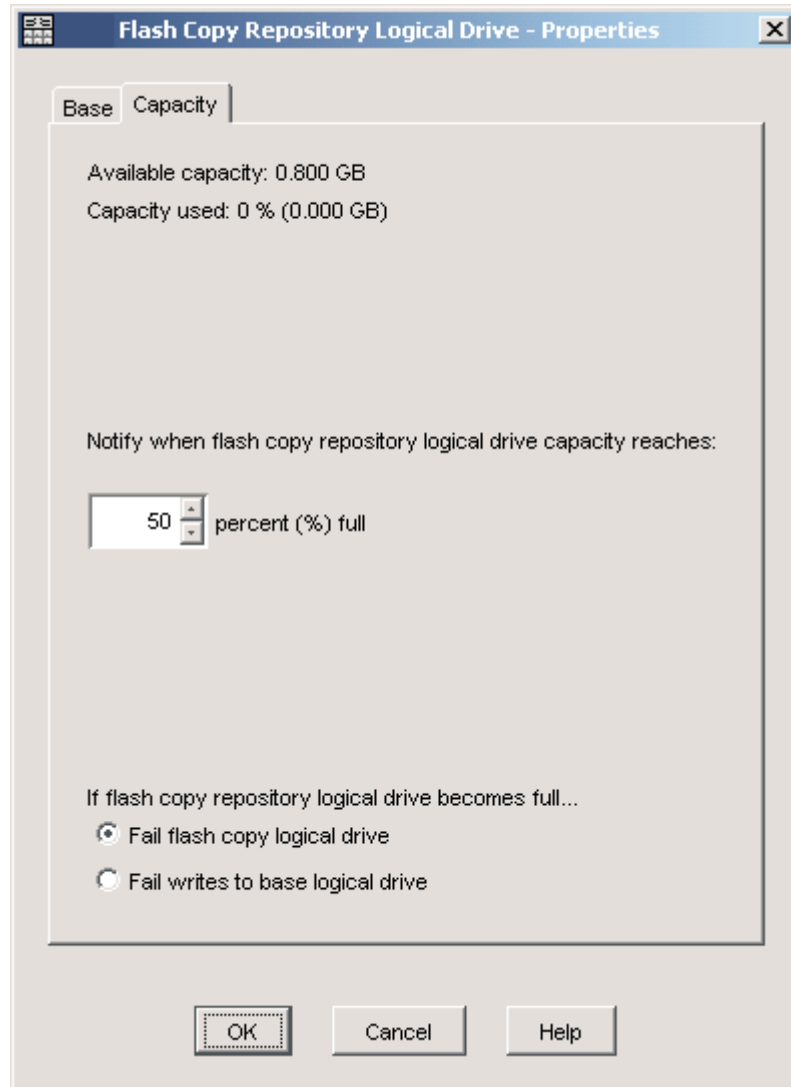

Figure 16. Repository capacity settings
3. Click the **Capacity** tab to view the currently defined settings, as shown in Figure 16 on page 41.